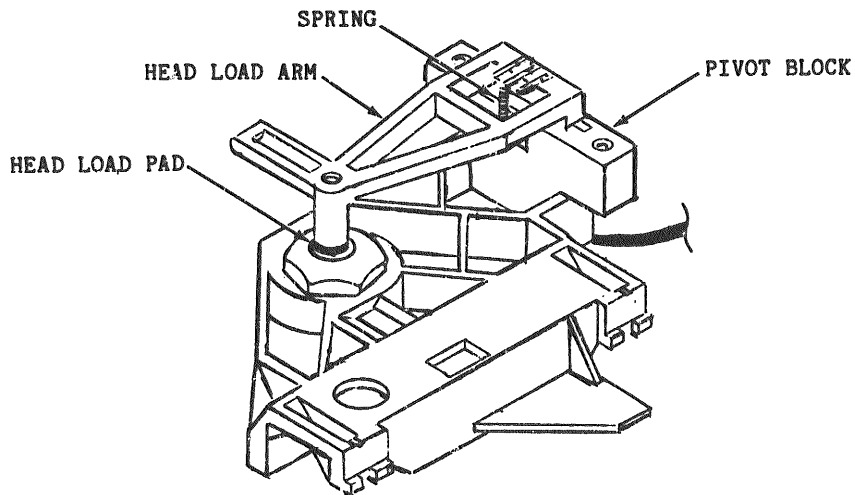

Figure 6-5. Head Load Arm and Pad
- a. Using a spring hook or tweezers, remove the spring holding the head load arm in place (see Figure 6-5); and lift the load arm from its pivot block.